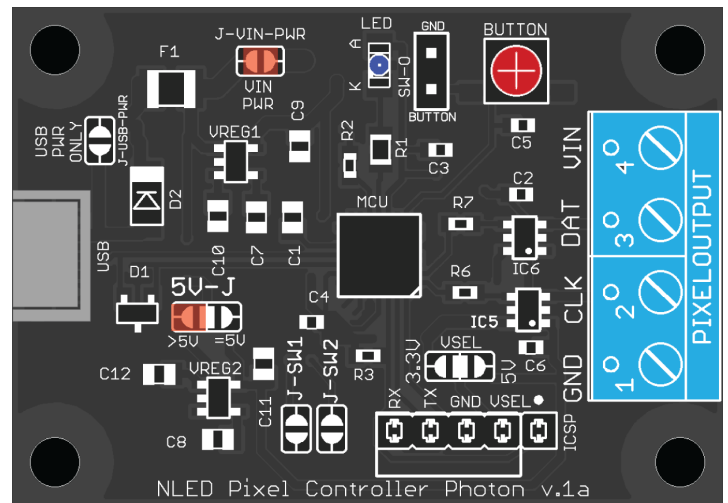

Fig. 15B
2. Power from an external 12 volt power supply connected to PIXELOUTPUT: Close J-VIN-PWR, close 5V-J to '>5V'. Leave J-USB-PWR open. See Fig. 15b